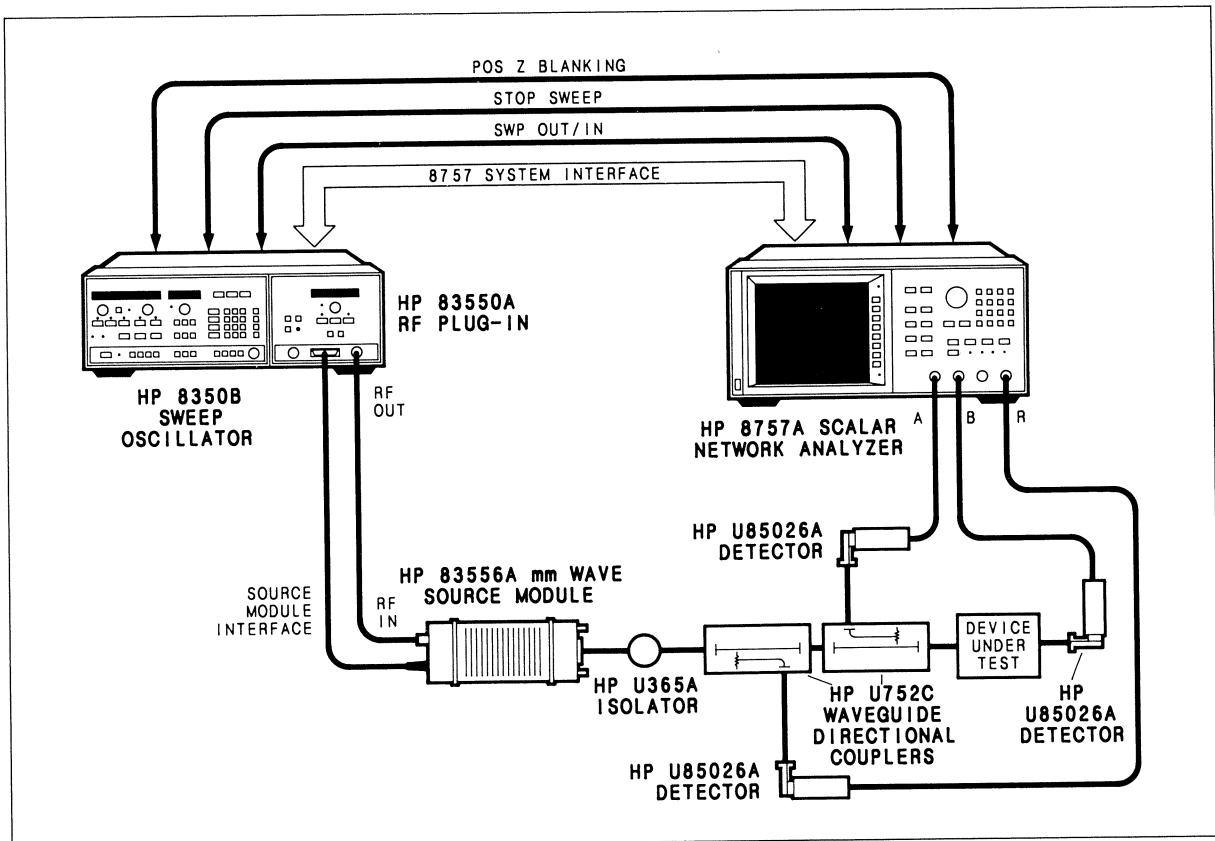

Figure 2-2. HP U85026A/8757A Typical Measurement Configuration
For the majority of measurements, AC detection is the preferred method. It offers greater sensitivity and immunity to noise and drift with time and temperature. AC detection amplitude measurements require a modulated test signal. Modulation is provided via an internally modulated source (e.g. the HP 8350B), or from the HP 8757A rear panel modulator drive. Test set connections depend on the source; Figure 2-2 illustrates a typical measurement.
1. Connect the equipment as shown in Figure 2-2.